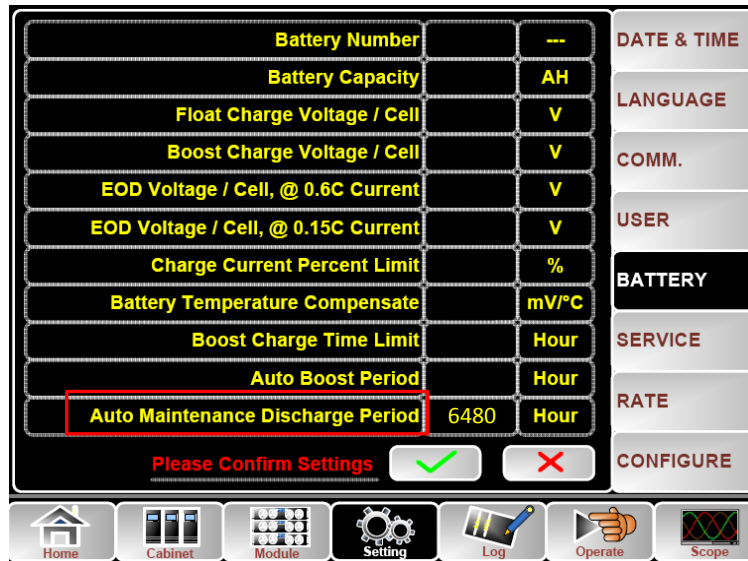

Fig.4-4 Setting period for battery auto discharge
- (b) Setting period for battery auto discharge. Enter the “BATTERY” page of the Setting (See Fig.4-4), Set the period time in the item “Auto Maintenance Discharge Period” and confirm.